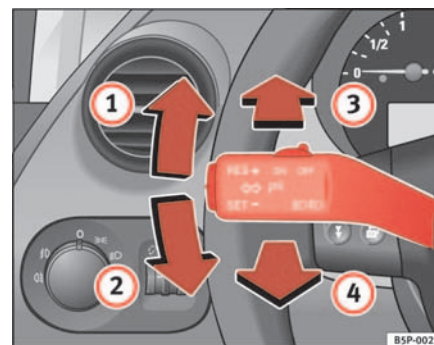

Fig. 79 Turn signal and main beam headlight lever
- Move the lever all the way up  $\Rightarrow$  fig. 79 **1** to indicate **right**, and all the way down **2** to indicate **left**.
- Press the lever forward  $\Rightarrow$  page 113, fig. 79  to switch on the main beams.